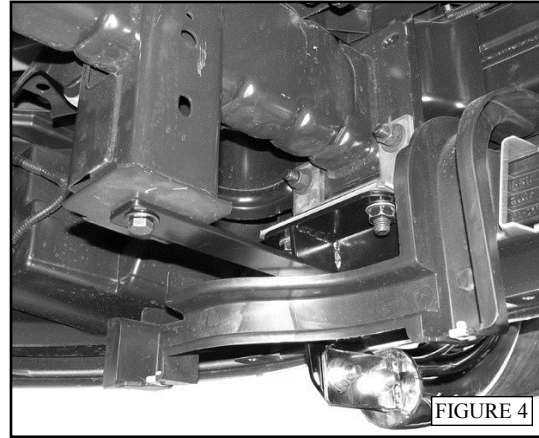

FIGURE 4
- Install the driver side lower frame mounting bracket to either the bottom of the tow hook or the provided upper frame mounting bracket using either the factory tow hook nuts or the supplied (2) M12 flat washers, (2) M12 lock washers, and (2) M12 hex nuts. (FIGURE 4)
- Attach the driver side support to the lower frame mounting bracket and rear tow hook mount. If the vehicle is equipped with tow hooks, attach the rear of the support bracket to the bottom of the tow hook and use the factory nut to secure. Use the rear bull bar assembly hole location and hardware to secure the front of the support bracket. (FIGURE 4&5)
- To attach the support bracket when the vehicle is not equipped with a tow hook use the supplied M12 X 1.5 bolt, flat washers, and lock washers to secure the rear of the support bracket. Use the supplied (2) M10 x 35MM hex bolts, (4) M10 flat washers, (2) M10 lock washers, and (2) M10 hex nuts to secure the front portion of the support bracket to the hole located above the bull bar holes on the lower support bracket.